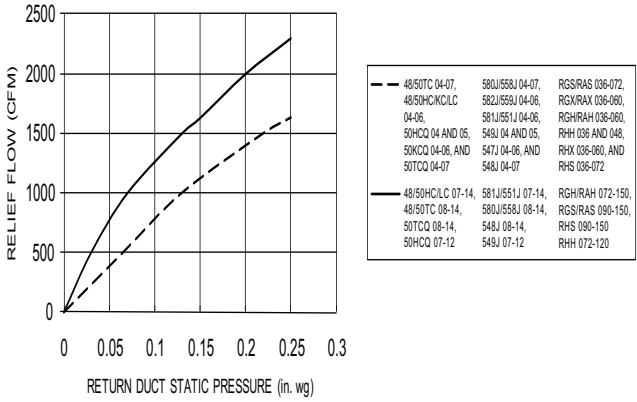
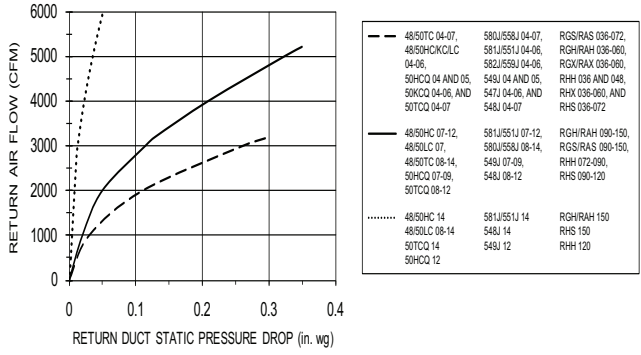

Fig. 10 — Barometric Relief Flow Capacity
Fig. 11 — Return Air Pressure Drop
15. To adjust economizer minimum position and other settings, refer to instructions provided with specific economizer DDC controller. Figure 10 shows barometric relief flow capacity and Fig. 11 shows return air pressure drop, for adjusting these settings to meet building ventilation requirements see base unit installation manual.